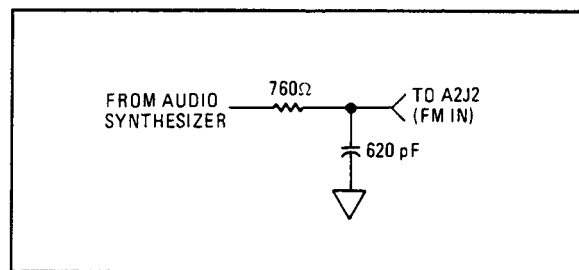

Figure 8F-15. Filter for $\sqrt{1}$ Step 10
10. Construct the input load for the FM input as shown in Figure 8F-15. The 760 Ω resistor can be constructed from a 909 Ω resistor in parallel with a 4640 Ω resistor.